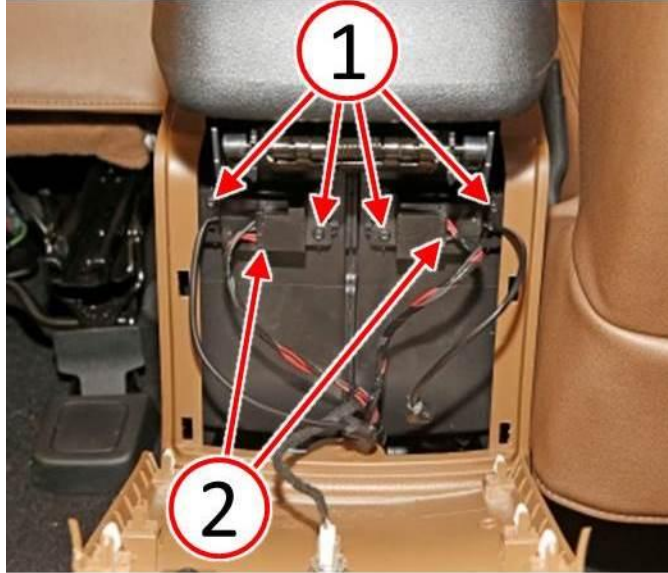

Fig. 15 Center Console Alarm Sensor
31. Disconnect the electrical connectors (2) from the alarm sensors (Fig. 15).
32. Remove the four fasteners (1) securing the alarm sensors (Fig. 15).
34. Install the four fasteners (1) securing the alarm sensors (Fig. 15).
35. Connect the electrical connectors (2) to the alarm sensors (Fig. 15).